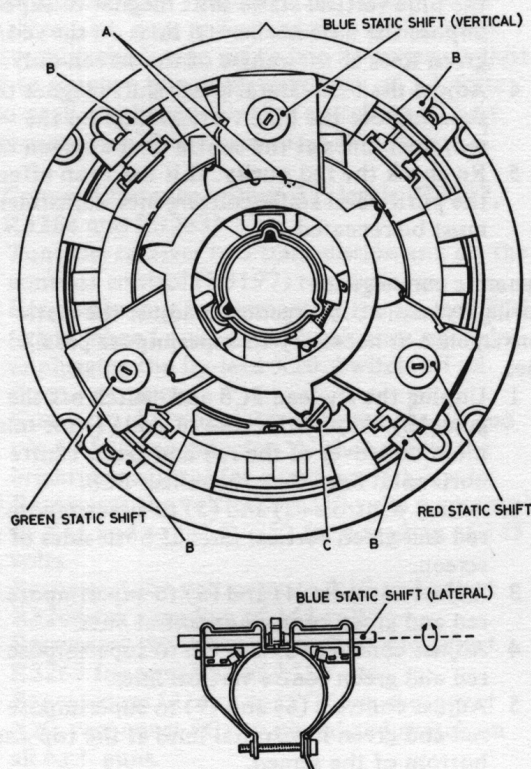

Figure 7.31. Deflection assembly details.
- 2 Switch off the blue gun (switch 18) and, keeping the brightness level fairly low, adjust the red and green static shift magnets (see Figure 7.31) to superimpose the red and green lines at the centre of the screen only.
- 9 Adjust controls (16) and (17) to superimpose the blue horizontal lines on the red/green lines at the top and bottom of the screen.
- (a) Temporarily unplug the lead X13 and slacken the convergence yoke securing screw C (see Figure 7.31).
- 2 Switch off the blue and green guns (switches 18 and 19). Adjust the brightness control and, if necessary, the red G2 control (23) for a reasonable brightness level of the red raster.
- 3 Cancel the purity ring magnets by setting the notch 'A' in each ring in line with the other (see *Figure 7.31*).
- 4 Slacken the four winged nuts 'B' (see *Figure 7.31*) and slide the deflection coils fully backwards (i.e. away from the screen) taking care not to rotate the coils. Adjust the purity ring magnets to move the red area to the centre of the screen.
- 6 Switch off the red gun (20) and switch on the green gun (19). If necessary, adjust the green